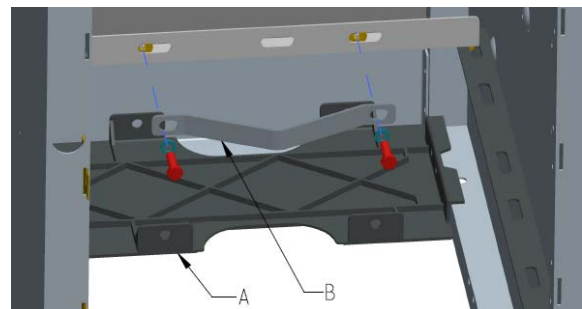

Figure 2
- Disassemble the cable bracket (Figure 2 B).